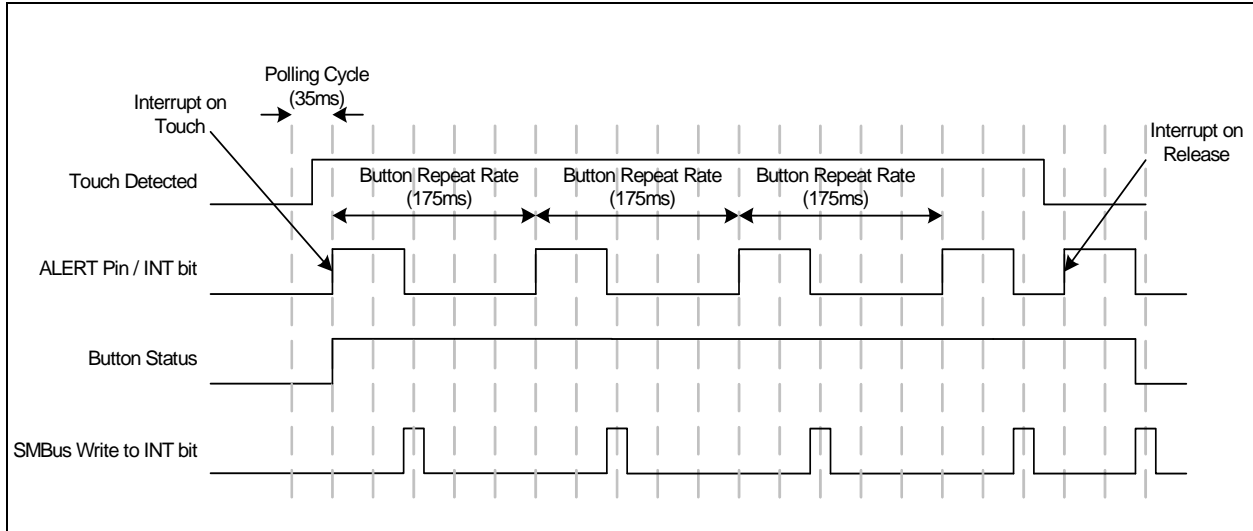

Figure 4.3 Sensor Interrupt Behavior - Repeat Rate Enabled
2. If the repeat rate is enabled (see Section 5.6), then, so long as the touch is held, another interrupt will be generated based on the programmed repeat rate (see Figure 4.3).